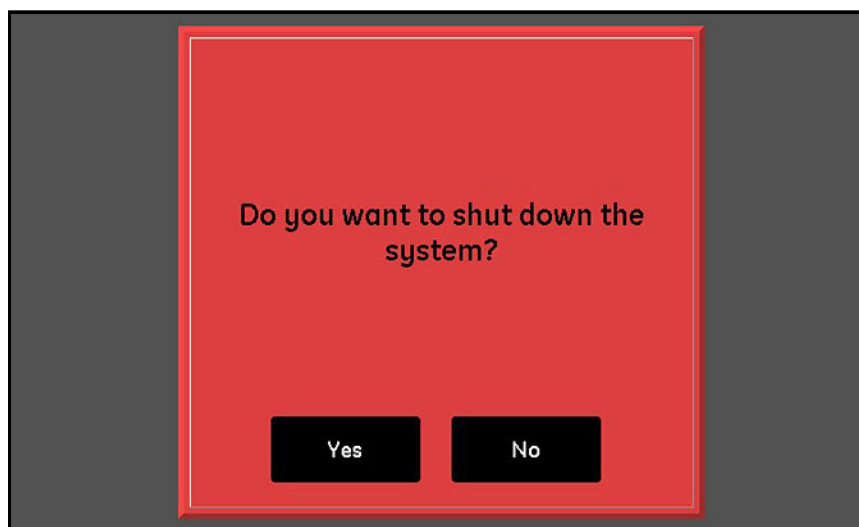

Figure 31: Shut Down Confirmation Screen
3. At the confirmation screen shown in *Figure 31* below, tap the **Yes** button to shut down the unit or tap the **No** button to cancel the request.
To shut down the moisture.IQ system, tap the **Shut Down** button. Then, tap either **Yes** or **No** at a confirmation screen similar to the one shown in *Figure 31* on page 33.